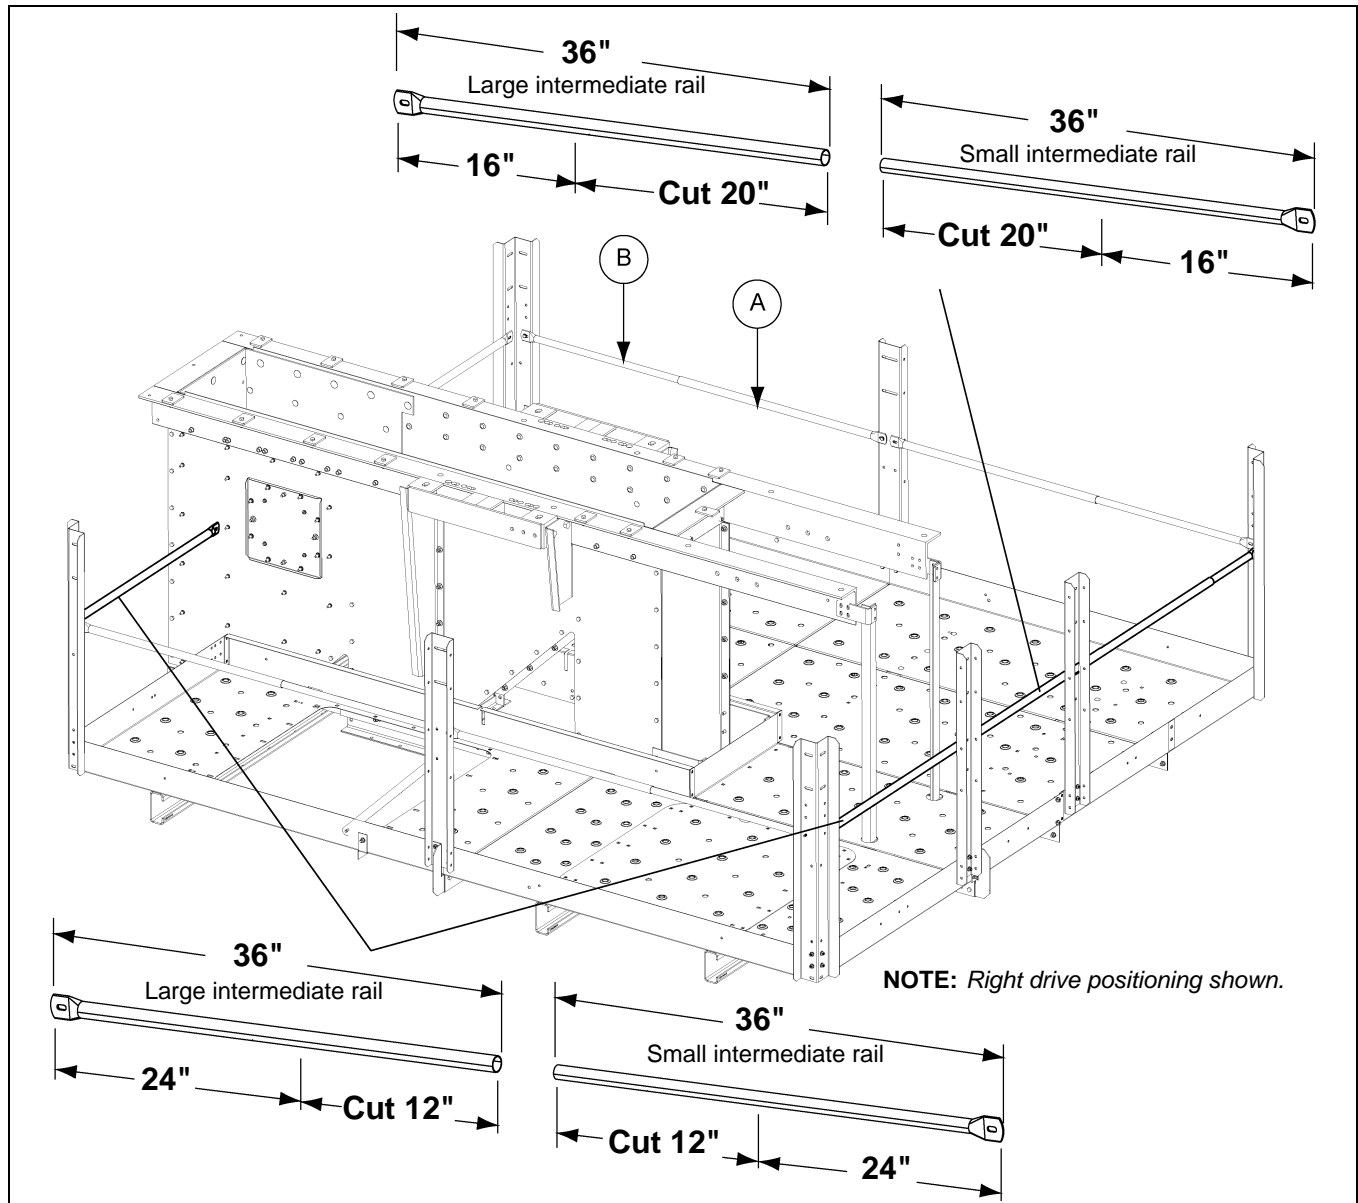

Figure 10J
1. Cut 20" off the tube end of one small intermediate handrail (LDR-4088) (B) and one large intermediate handrail (LDR-4087) (A). (See Figure 10J.) Slide the small rail into the large rail and install between the posts opposite the discharge end and adjust to fit. Fasten using 5/16" x 3/4" bolts (S-6606) and nuts.
2. Cut 12" off the end of two (2) small intermediate handrail (LDR-4088) (B) and two (2) large intermediate handrail (LDR-4087) (A). (See Figure 10J.) Slide the small rails into the large rails and install one set at the discharge end of Deck A. Install the second set opposite the discharge end of Deck A. Fasten using 5/16" x 3/4" bolts (S-6606) and nuts.